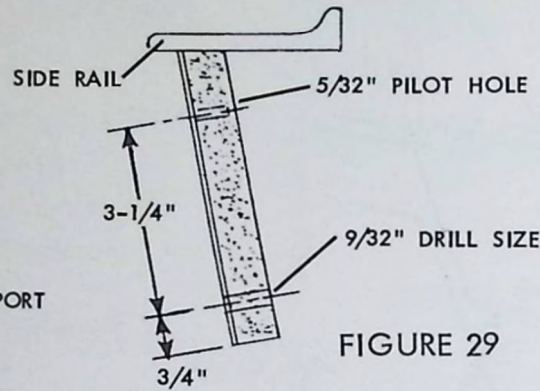

FIGURE 29
2. Drill the appropriate holes for each leg of the fixture (Figure 29).